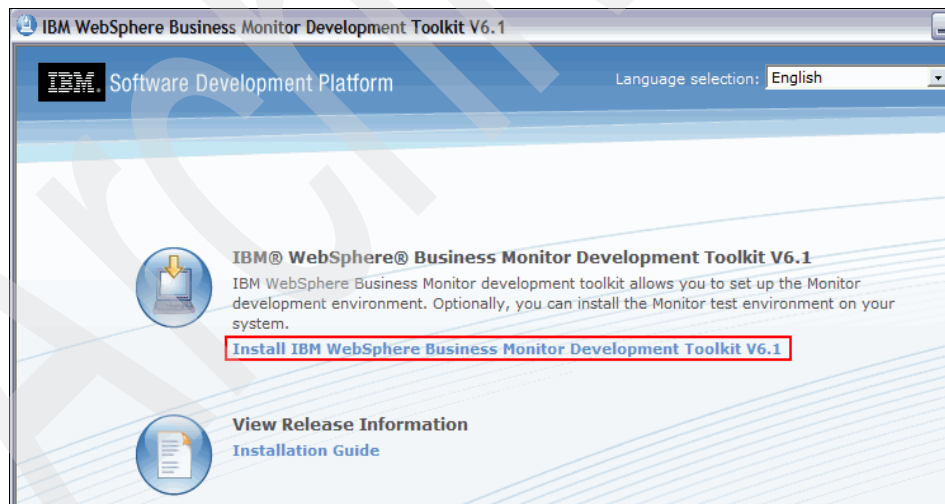

Figure 3-5 Install IBM WebSphere Business Monitor Development Toolkit V6.1
2. On the page that opens (Figure 3-5), click the **Install IBM WebSphere Business Monitor Development Toolkit V6.1** link to begin the installation.